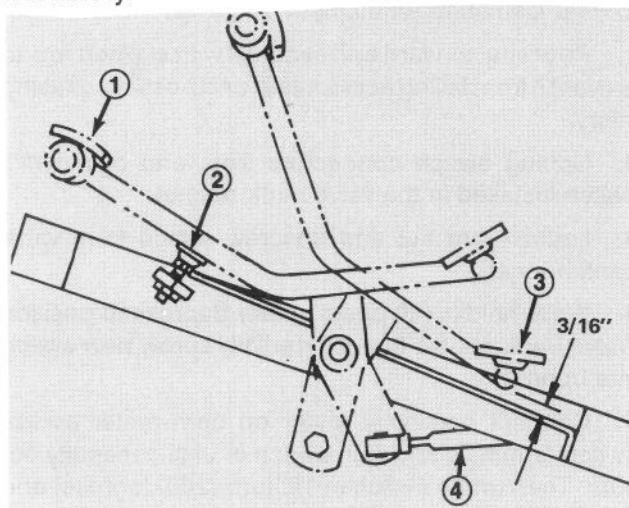

Figure 46
## ADJUSTING TRACTION PEDAL (Fig. 46)
2. Check distance between bottom of pedal and footrest as shown in Fig. 46. Distance should be approximately 3/16". If distance is greater or less than 3/16" dimension, an adjustment to the traction control rod is required.
## MOW/LIFT SWITCH MAINTENANCE (Fig. 46)